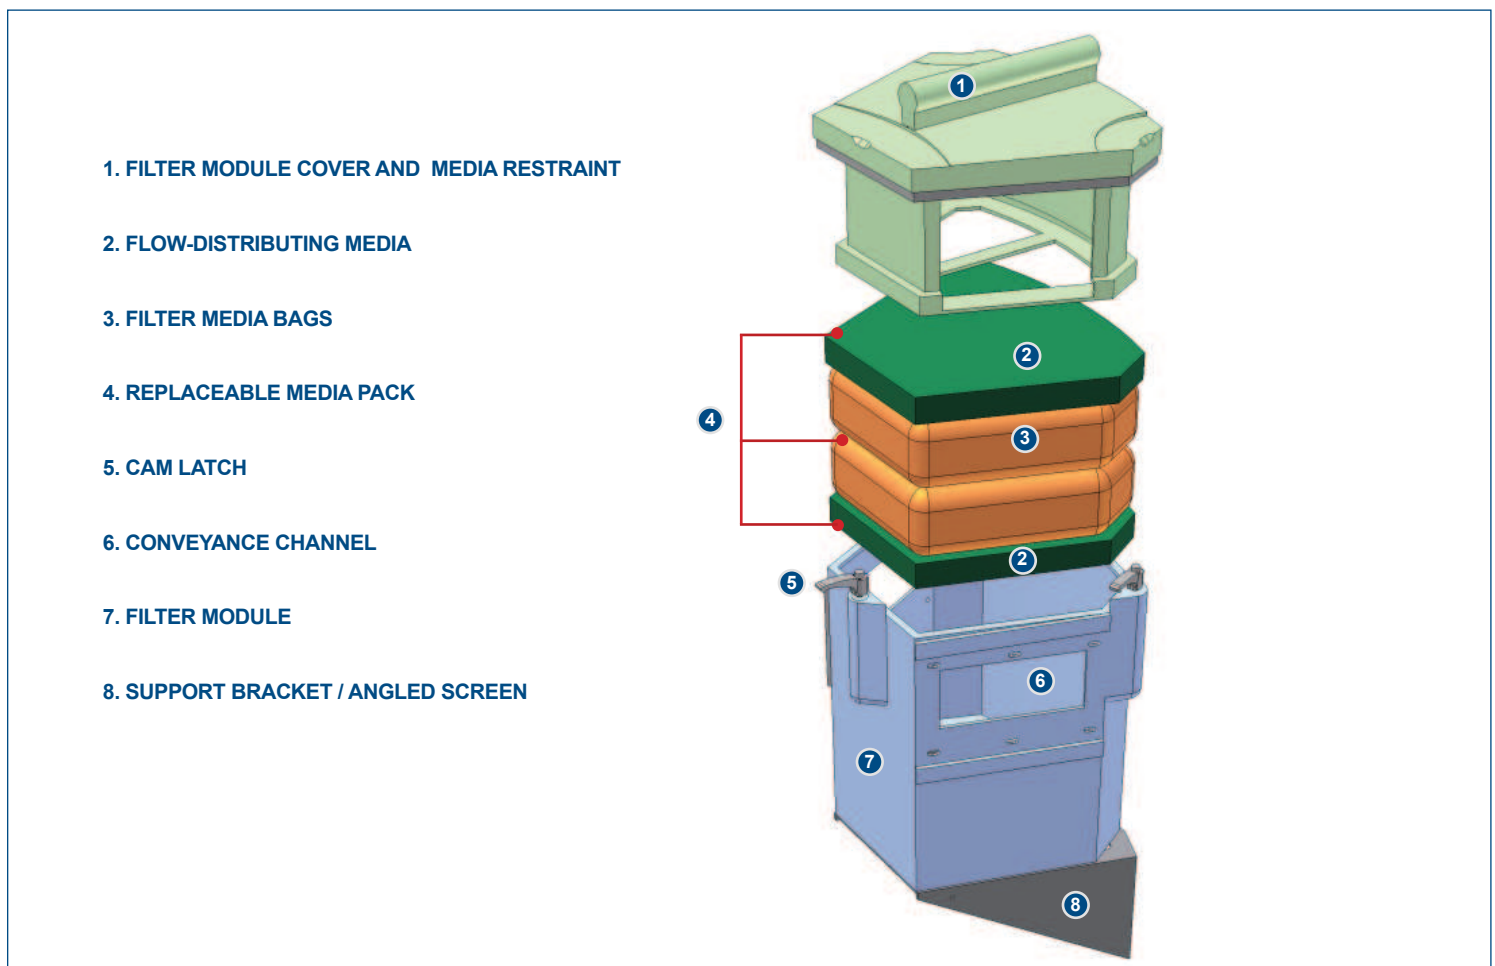

Figure 6: The Filter Module houses the Media Restraint and the Media Pack
3. Open the Filter Module by turning the three cam latches on the front and sides of the module. Remove the lid ❶ to gain access to the Media Pack (Figure 6).
- A top layer of green ❷ Flow-Distributing Media.
- Two (2) Media Bags ❸ equipped with nylon handles.
- A bottom layer of green ❷ Flow-Distributing Media.